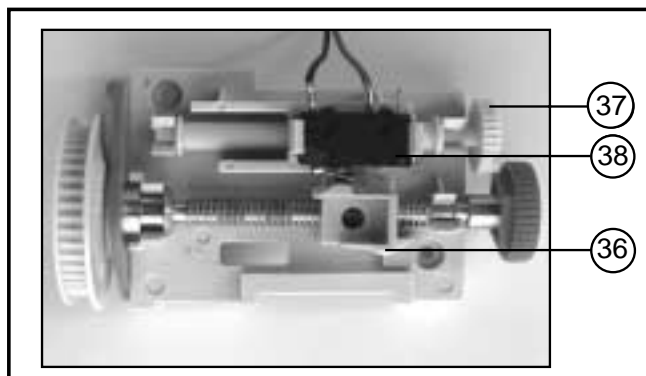

Fig. 7: Setting the reference point (door is opened)
- Now turn with the small knurled wheel (37) the adjusting spindle, until the reference point switch (38) is actuated by the carriage (36) (see fig. 7). Then turn the small knurled wheel (37) 1 - 2 rounds counterclockwise.